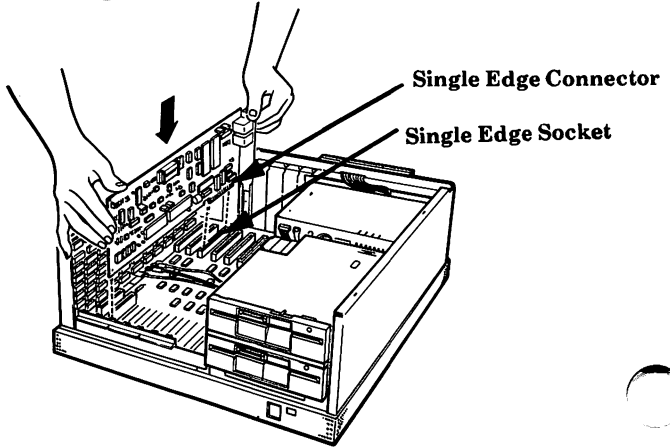

Figure 2-5. Installing the modem option board.
9. Hold the modem option board by the edges as you align the edge connector over the socket. See Fig. 2-5.